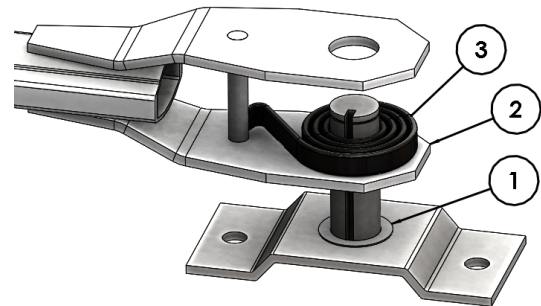

Figure 2.8
Align the pivot bracket with the mark, and center it vertically. Verify the distance from the rear of the chassis is equal on both sides of the truck as a double-check. The pivot brackets must be mounted to the truck with the spring slot (Figure 2.8) facing down.
install bushing/flat washer (1) over pivot pion. Slide bottom of the arm (2) over the pivot pin and install springs (3) one at a time as shown (Figure 2.8).